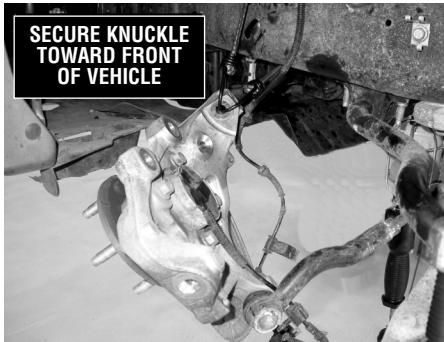

FIGURE 2
9. While supporting the knuckle remove the nut from the lower ball joint stud. Rotate knuckle to the front of the vehicle and secure out of the way (SEE FIGURE 2).